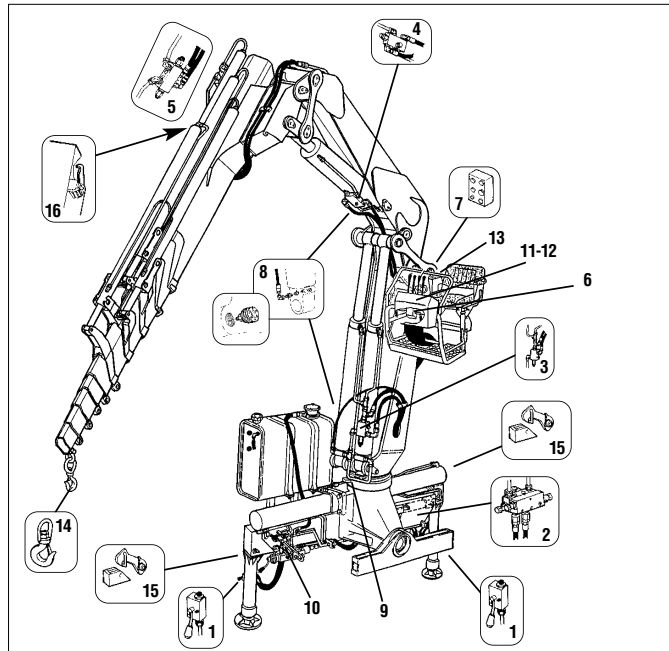

fig. 8
- Version with ground controls for outriggers and top seat controls for crane (fig. 8)